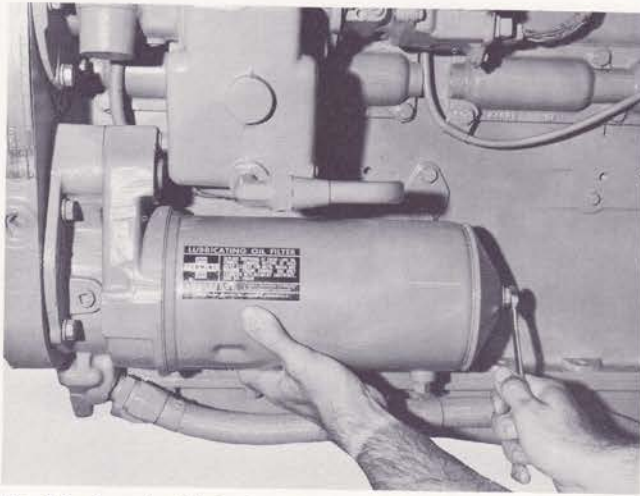

Fig. 3-2. Removing lubricating oil filter center bolt
2. Loosen center bolt or remove capscrews and remove filter case from filter head. Fig. 3-2.